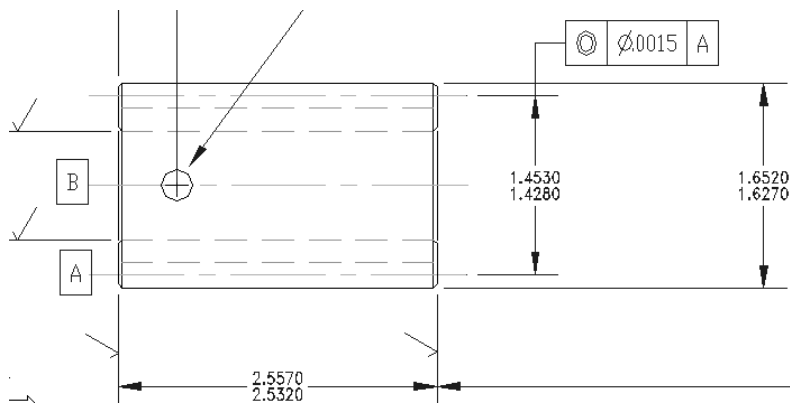

Figure 15-32: Limits tolerances
- ♦ **Limits** tolerances include the upper and lower tolerances in the measurement, as shown in Figure 15-32. Use the Upper value and Lower value text boxes to type in the upper and lower tolerance amounts.